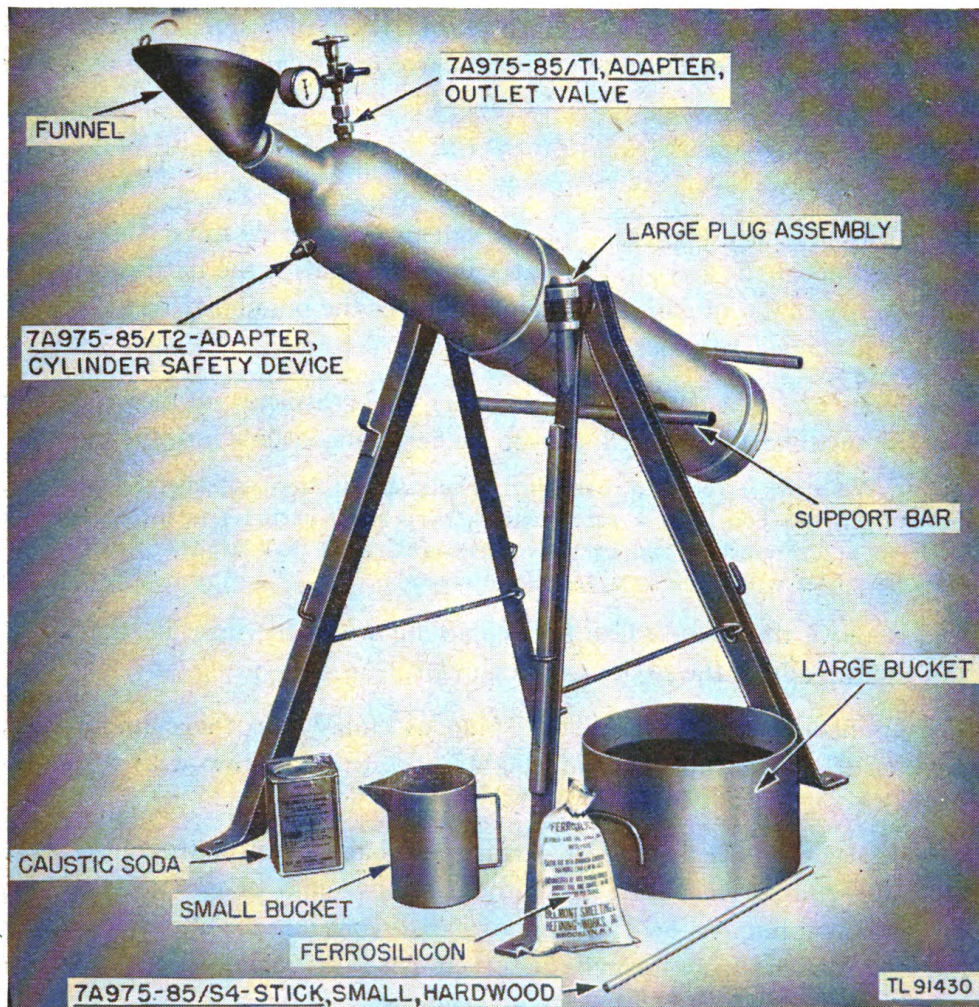

Figure 10. Generator ML-185-(*), inclined charging position.
b. Tilt the cylinder so that the outlet valve assembly is on the upper side. (See fig. 10.) Secure the support bar of the proper A-frame to the bar hook opposite it on the other A-frame. Lower the cylinder *gently* on the crossbar to prevent bending the bar. The bar now supports the cylinder at an angle of 45°.
d. Set the cylinder in the inclined charging position of 45°. (See fig. 10.) Be sure to lock the supporting crossbar in place.